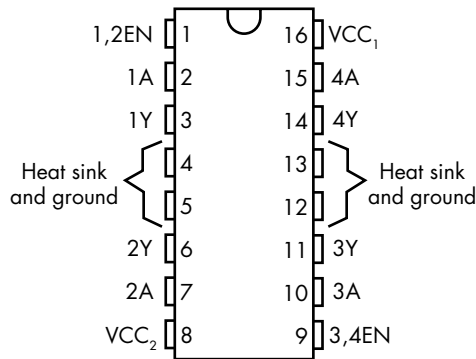

Figure 4-6: SN754410 H-bridge pinout in a DIP form factor
11. Insert the SN754410 H-bridge several rows away from the Nano, straddling the gutter in the middle of the breadboard. (Figure 4-6 shows the H-bridge pinout.)